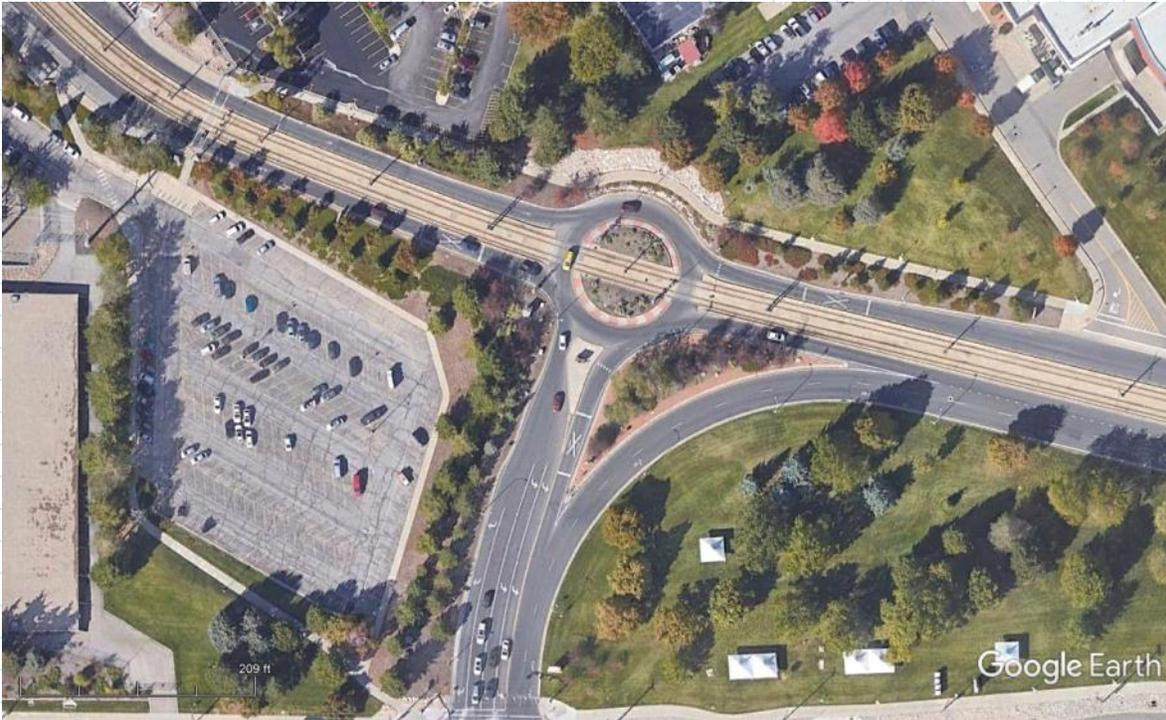

Figure 1. Satellite image of round-about near Rice Eccles Stadium, University of Utah Campus. (see Canvas folder file)
1. You are required to develop an AutoCAD plan view drawing from a satellite photo of a roundabout (round-about-U of U, see Fig 1). **Use the campus round-about.jpg in the files folder in Canvas to make the drawing.**